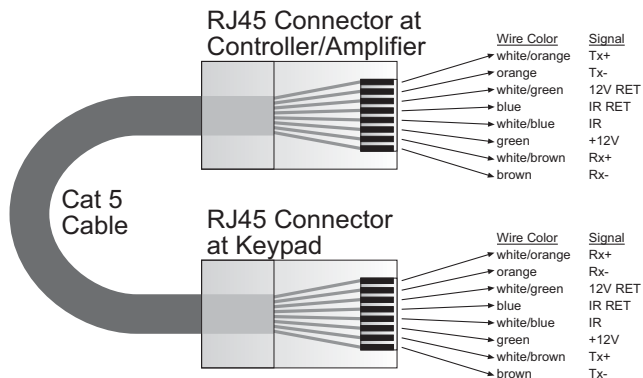

Figure 7 - CAT5 Pin Assignments (per EIA/TIA 568B)
3. With the Controller/Amplifier turned off, connect the CAT5 cable to the appropriate RJ45 connector, using **Figure 7** as a guide for CAT5 termination.
1. See **Figure 7** for termination of the CAT5 cables to the RJ45 connectors.
1. Refer to **Figure 7** for proper termination at the zone-end of the CAT5 cable.
1. For a second keypad in the same zone, terminate the CAT5 cable with the same configuration as shown in **Figure 7**.